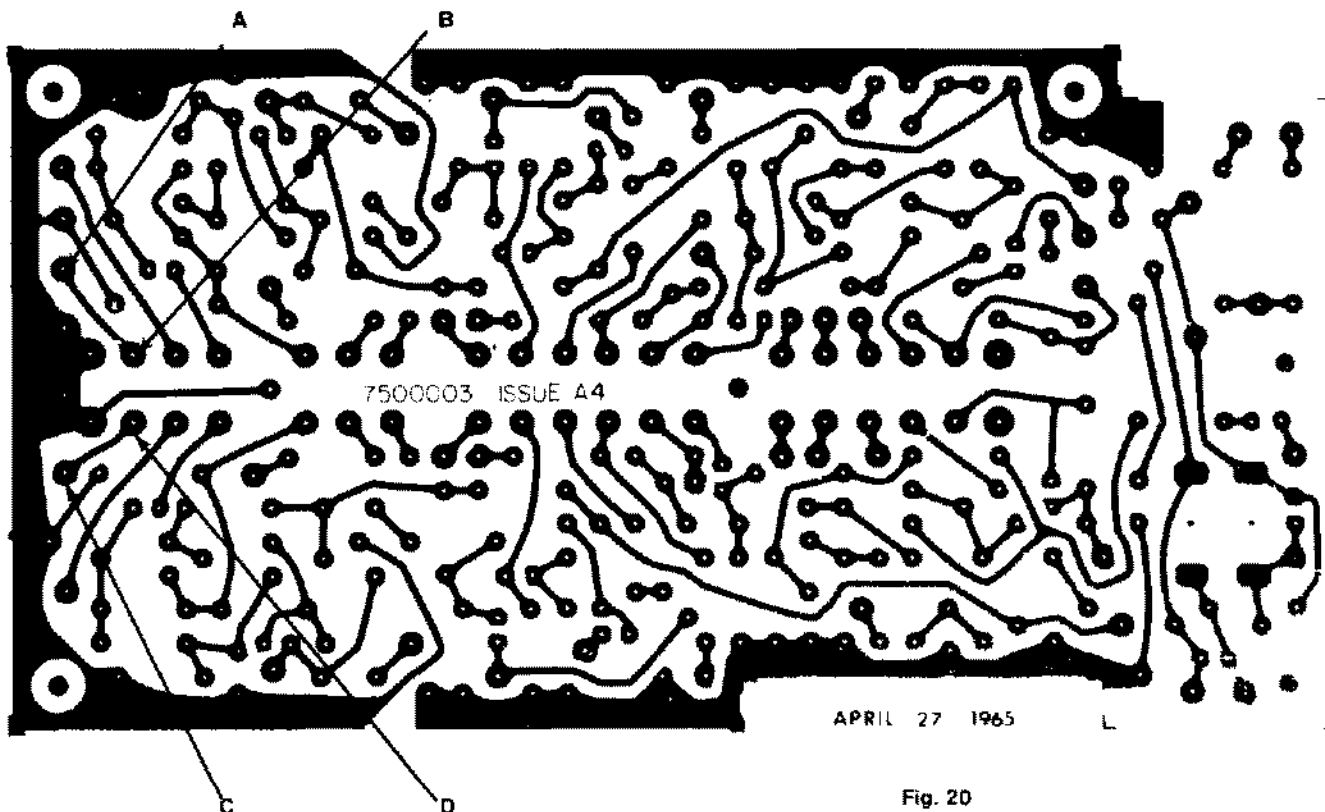

Fig. 20
3. Remove the four (4) screws from the capacitor plate assembly and route the assembly away from the amplifier to expose the printed circuit board.
4. Separate the foil between points A and B and points C and D. See Figure 20.